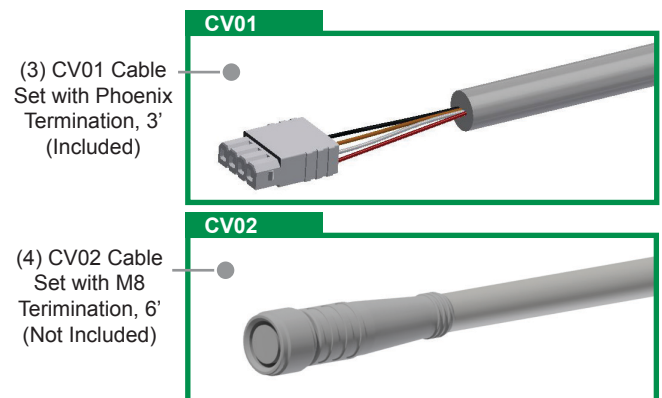

Figure 2B. Connection Verification cables
A new FI+ (Connection Verification) comes with only the base connector (1), **seal sets are sold separately. Users must install the seal set before use.** If the connector includes Connection Verification, a CV01 cable (3) will included, a CV02 cable will not be included. As shown in Figure 2B.